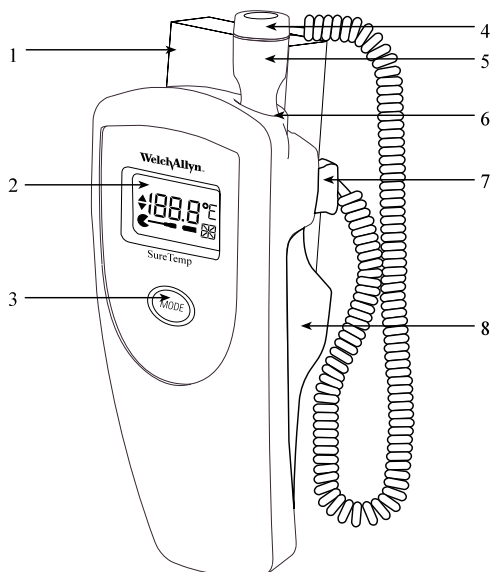

Figure 1
1. Install the supplied Oral/Axillary probe or optional Rectal probe by inserting the latching plug on the end of the coiled cord into the plug receptacle on the unit. The plug snaps into place and cannot be removed without depressing the latch. (Figure 1).
5. After the temperature measurement is complete, remove the probe from the patient, then eject the probe cover by firmly pressing the ejection button on the probe. (Figure 1)
10. After the temperature measurement is complete, remove the probe from the patient's axilla, then eject the probe cover by firmly pressing the ejection button on the probe (Figure 1).